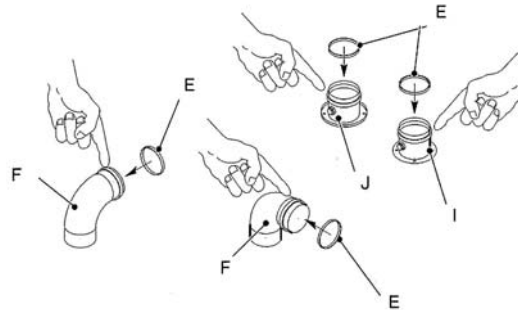

Figure 2
Install the gaskets (E) in the exhaust and intake boiler collars (I,J) and elbows (F), as shown in figure 2.